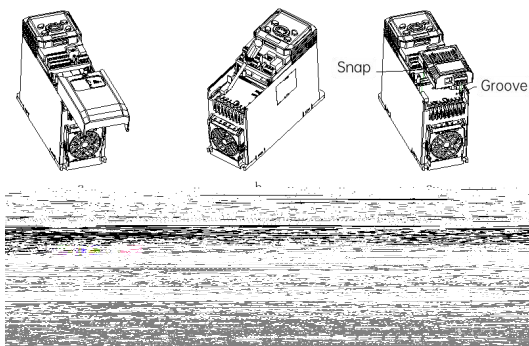

Fig. 4 CANopen option installation steps
(1) When the drive is powered off, press the granulated area on the middle-upper part of the lower cover, slide it down with a certain amount of force to remove the lower cover, as shown in Fig. 4-a.
(2) Use a straight screwdriver to pry open the dust-proof cap, as shown in Fig. 4-b.
(3) Install the CANOpen option: hold the expansion box (a bus card inside) upwards (indicators up), align the expansion box with the electrical bus interface in the installation position 2, and press down horizontally to buckle the spring snap of the expansion box into the groove at the lower part of the drive, as shown in Fig. 4-c and Fig. 4-d.
(4) The bus option is successfully installed, as shown in Fig. 4-e.